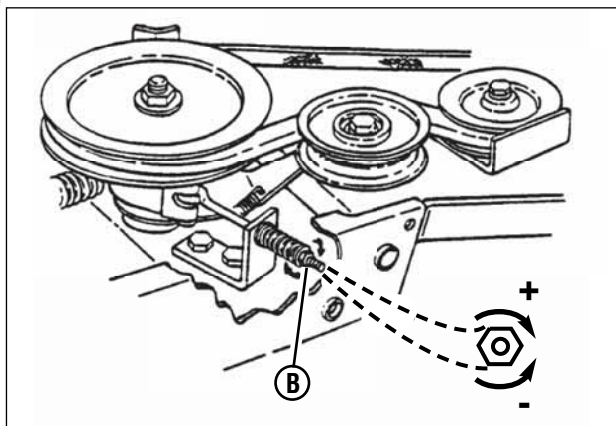

Figure 32: Adjusting blade brake tension
3. If the dimension is greater than 3-1/4", rotate the brake adjustment nut (**A**, **Figure 32**) clockwise to increase brake tension. If the dimension is less than 3", rotate the nut counter-clockwise to decrease brake tension.